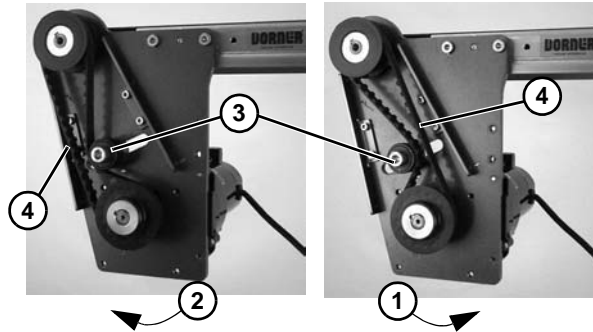

Figure 19
3. Depending on direction of conveyor belt travel (1 or 2 of Figure 19), position timing belt tensioner (Figure 19, item 3) as shown. Tension timing belt to obtain 1/8" (3 mm) deflection for 1 lb (456 grams) of force at timing belt mid-point (Figure 19, item 4). Tighten tensioner screw to 106 in-lb (12 Nm).
5. Depending on direction of conveyor belt travel (Figure 19, item 1 or 2), position timing belt tensioner (Figure 19, item 3) as shown. Tension timing belt to obtain 1/8" (3 mm) deflection for 1 lb (456 grams) of force at timing belt mid-point (Figure 19, item 4). Tighten tensioner screw to 106 in-lb (12 Nm).